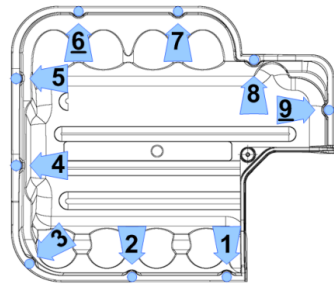

Figure 12 – Top Cover Install
- Place the Top Cover and secure it with the fasteners according to the following sequence. Follow the sequence twice. The first time, only thread the fasteners half way down to allow for adjustments. Torque to 13 in.lb. on the second pass. Refer to Figure 12 – Top Cover Install.